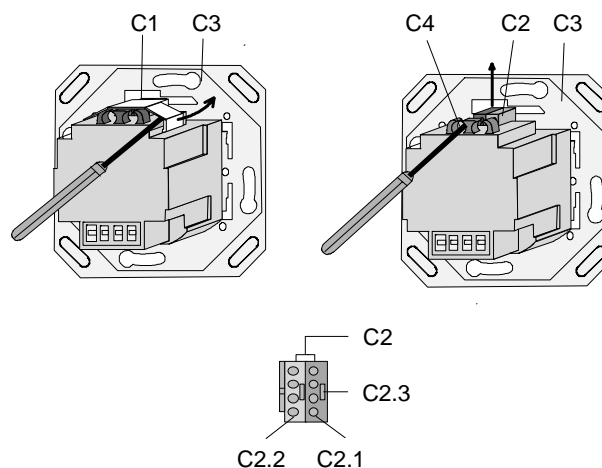

Figure 3: Slipping on/off bus connection blocks
**Slipping on/off bus connection blocks (Figure 3)**
**Slipping off bus connection blocks (Figure 3)**
Slipping on bus connection blocks (Figure 3)